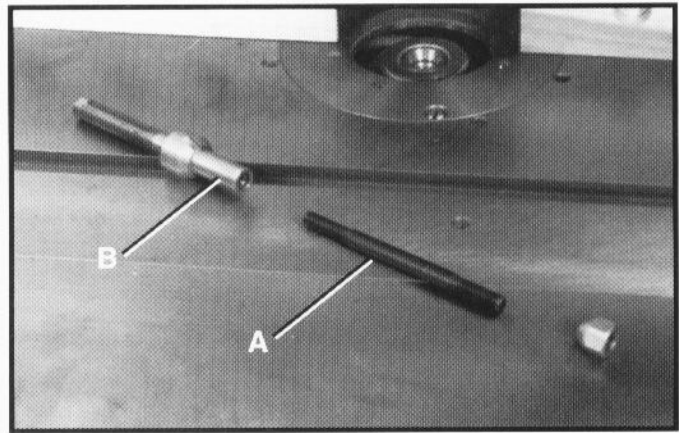

Fig. 12
1. Thread one end of the tie rod (A) Fig. 12, into the threaded hole in the bottom of the spindle (B).